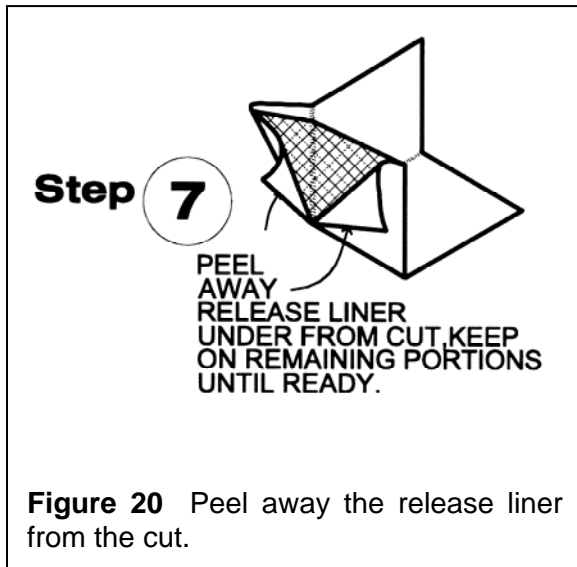

Figure 20 Peel away the release liner from the cut.
Step 7. Peel away a portion of the release liner. See Figure 20.